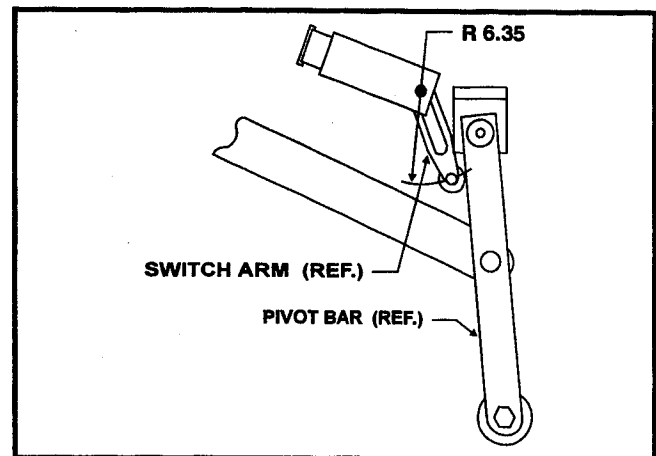

Figure 2-18. Pothole Protection System Limit Switch Adjustment. (Power Lift Down)
### • Machines with Power Lift Down. (See Figure 2-18.)
2. Rotate the arm until it contacts the pivot bar, then slide the arm in the adjusting slot until a 6.35 cm radius is obtained as shown in Figure 2-18.